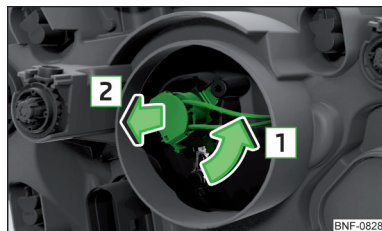

Fig. 174
- › Turn the holder with the bulb in the direction of arrow **1** » Fig. 174.